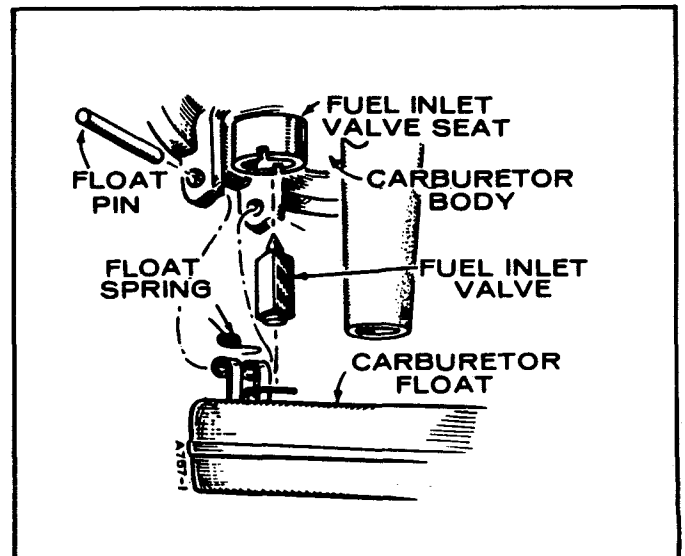

FIGURE 6. FLOAT ASSEMBLY
2. Remove the float pin and float. See Figure 6.